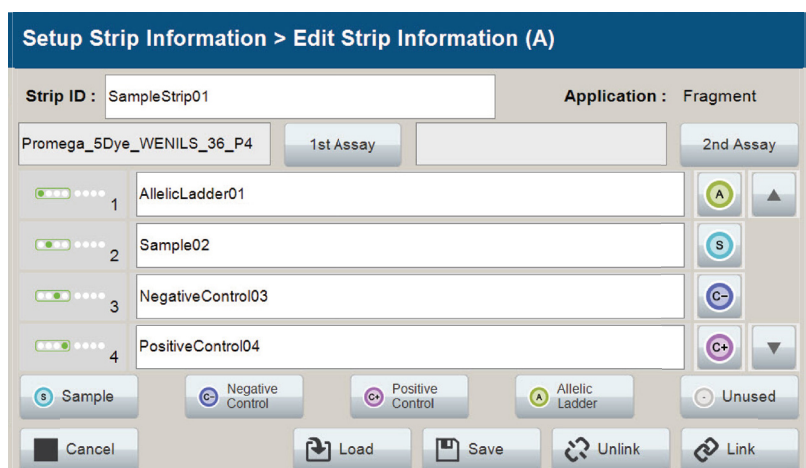

Figure 69. Completed 'Edit Strip Information' screen.
- When all information is entered and verified for the strip, select **Link** on the lower right corner of the 'Edit Strip Information' screen (Figure 69). This will link the strip to the run. If you want to save the Strip Information to use in future runs, save the information by selecting **Save** at the bottom of the 'Edit Strip Information' screen (Figure 69). This will save the strip information so that it can be loaded later into another run, as well as link the strip to the run (see Section 5.3.3).